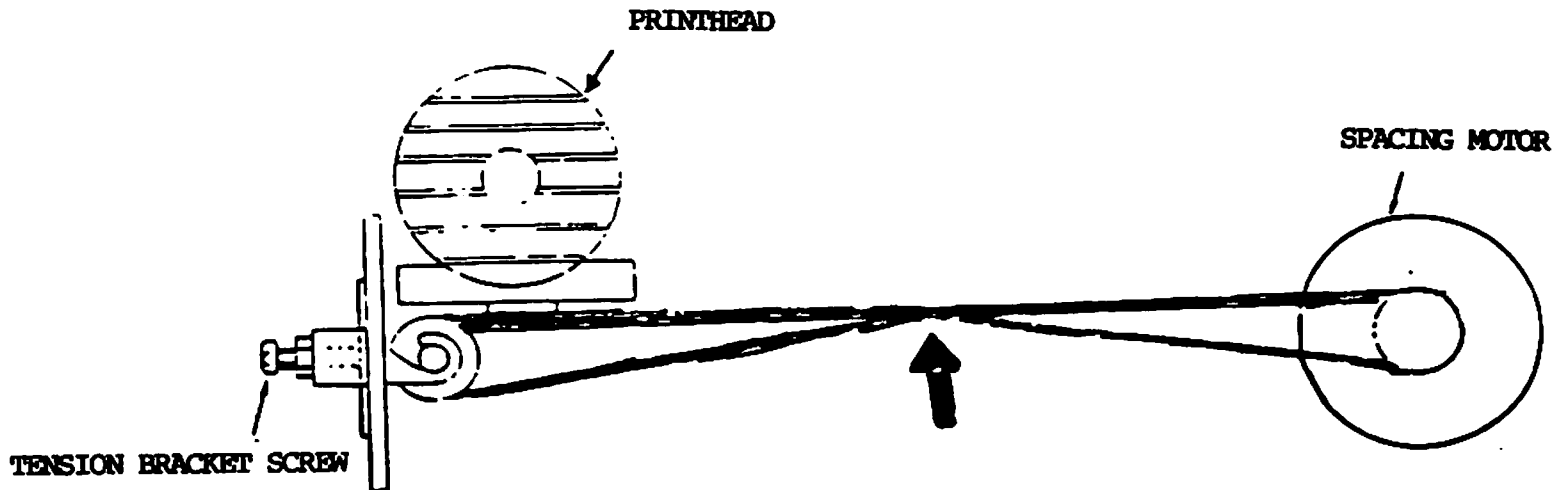

Figure 4-8 Spacing Belt Tension Adjustment
2. Using a tension gauge, pull up the center of the belt so that the lower part of the belt meets the upper part (see Figure 4-8). The standard value is 24 to 27 oz. (680 to 760 g) for the P6/CP6 and 14 to 19 oz. (400 to 550 g) for the P7/CP7.